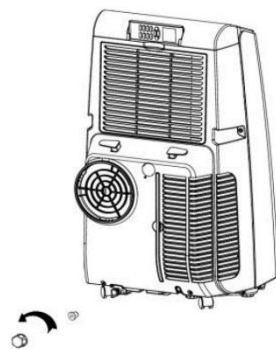

Figure 1
2. Place a container below the manual drainage outlet (Figure 1).